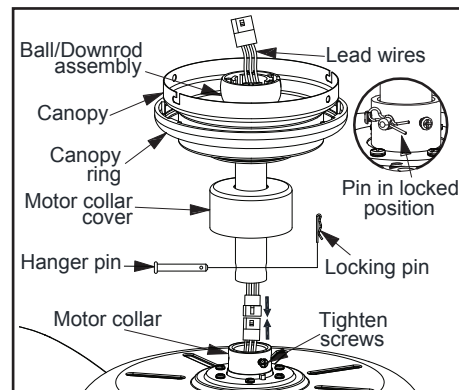

Figure 13
4. Place downrod over canopy and canopy ring, slide the motor collar cover onto the downrod. Connect the extension lead wires to the lead wires from motor. Make sure the quick connectors are clasped firmly. Route the wires through the ball/ downrod assembly. (Figure 13)
6. Align the holes at the bottom of the downrod with the holes in the collar on top of the motor housing. (Figure 13)
7. Carefully insert the hanger pin through the holes in the collar and downrod. Be careful not to jam the hanger pin against the wiring inside the downrod. Insert the locking pin through the hole near the end of the bolt until it snaps into its locked position, as noted in the circle inset of Figure 13.